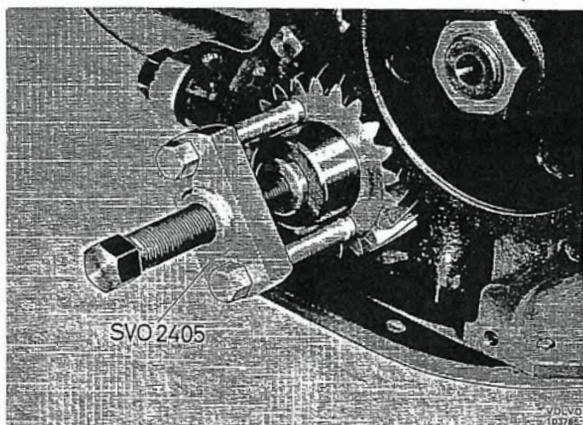
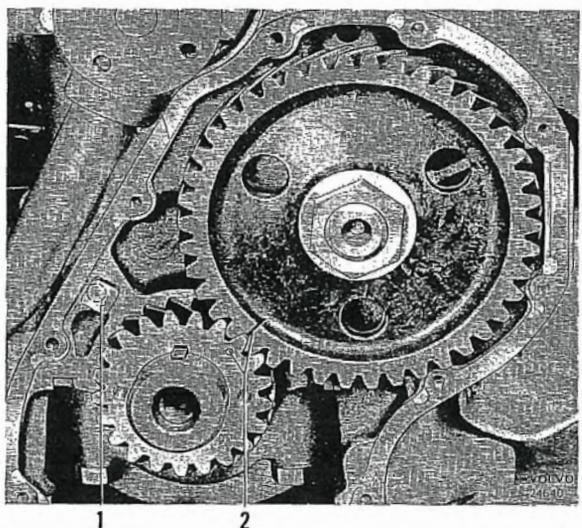

Fig. 2-41. Removing crankshaft gear
Fig. 2-44. Markings on timing gears
5. Pull off the crankshaft gear by using puller 2405, Fig. 2-41. Screw out the oil nozzle, blow it clean and then re-fit it as shown in Fig. 2-44. The gears are lubricated by oil fed through this nozzle.
Check that the gears are correctly located relative to each other, see Fig. 2-44. Tool 2407 has a socket intended for turning the crankshaft.